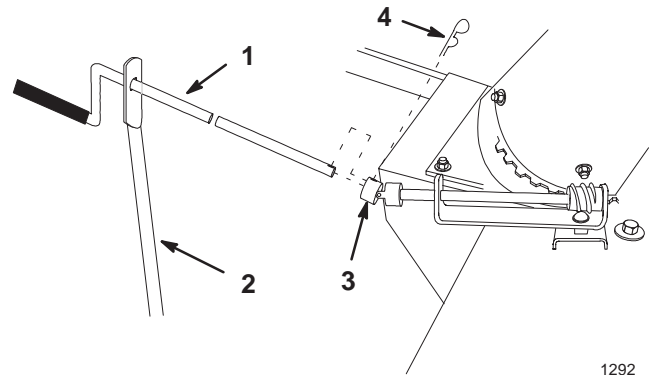

Figure 35
- Remove the hairpin cotter at the U-joint and slide the crank handle out of the support (fig. 35).